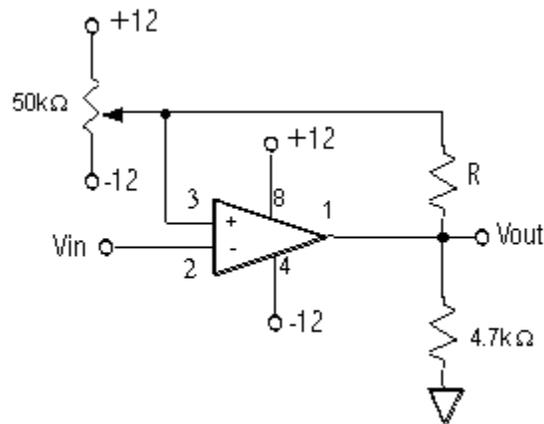

Figure 8: Comparator circuit using LM393 comparator chip and positive feedback (adjustable R)
The feedback resistor, R, provides the positive feedback seen in Figure 8. This positive feedback gives the circuit hysteresis, which makes the input voltage level required to turn off the circuit to be different from the one required to turn it on. This is useful, as it allows us to ignore the high frequency noise component still present in our signal. This noise could force the circuit to turn on and off undesirably, as the highly variable noise causes the circuit to constantly increase and decrease below a set threshold voltage. However, with hysteresis, once the circuit is triggered by the input voltage, the reference voltage is changed by the feedback resistor so that switching it back to another state requires a larger change in the input, making the circuit impervious to small amounts of noise. Figure 9 illustrates best how hysteresis improves the circuit.
- 1) Build the comparator circuit described in Figure 8. Reasonable values for  $R$  range from  $100\text{k}\Omega$  to a few  $\text{M}\Omega$ . Adjust the potentiometer so that the comparator is switched by the transmitted signal, but not the noise. The function of  $R$  is to prevent spurious switching of the comparator by noise at the input, as discussed above. If  $R$  is too large, you may see unwanted switching; if  $R$  is too small, it will reduce the sensitivity of your circuit.
- 3) Try different values of  $R$ , and describe how you decide which value to use. What value of  $R$  did you finally choose? This value of  $R$  should give you two reference voltages at the + input to the comparator, depending on the state of the output – this is what produces the hysteresis. Measure and write down the values of the reference voltage (+ input to comparator at Pin 3) with: a) the output high, and b) the output low. How large is the difference between  $V_{ref1}$  and  $V_{ref2}$ ? How does this compare with the noise level of your signal at the input to the comparator?